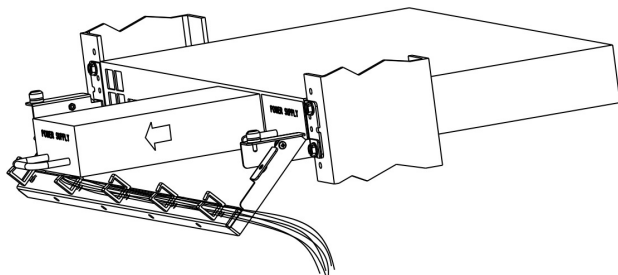

Figure 5. Full access to remove modules or power supplies.
3.2 For examples of use, Refer to Figure 5, 6, and 7. for reference.